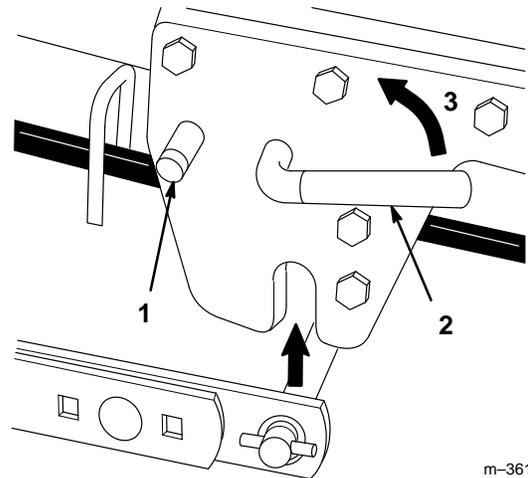

Figure 8
- Turn the lever of the Attach-A-Matic™ counterclockwise to lock the mower to the tractor (Fig. 8).